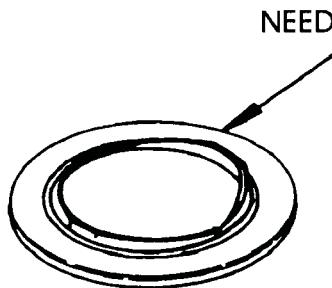

Figure 43
**CHANGE:** There is now available, from Ford Motor Co, a new design Center Support Service Kit with a ball bearing in the support. The new design service package is available under OEM part number F4TZ-7A130-B, and will back service all past model 89-94 E4OD transmissions only. The parts in this service kit are different dimensions than 1995 model year production parts. Refer to Figure 43 for service package kit contents.